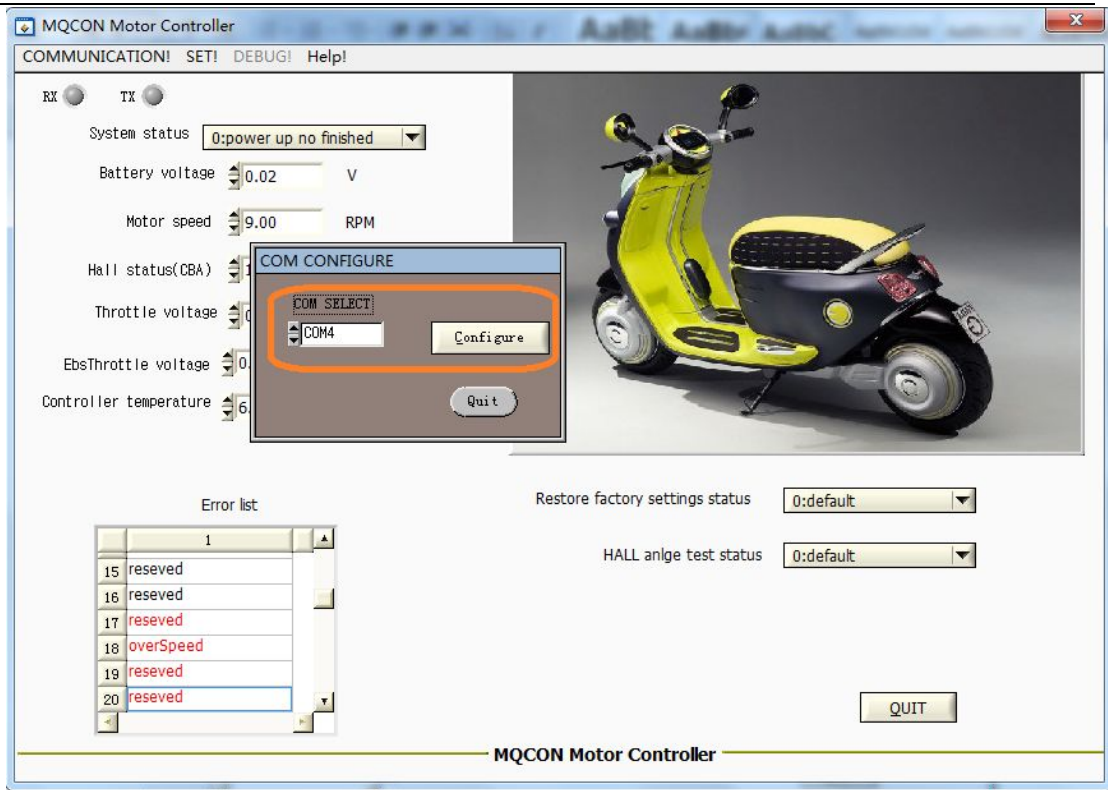

Figure 4
- (6) Return to the figure 4,when you select the right com number, then click *Configure*, the RX,TX leds on the main interface will twinkle, which mean the communication between the controller and computer succeed,and the *system status* show *system running* ,the click the *SET!* Menu,the *parameter setting* dialog box open :